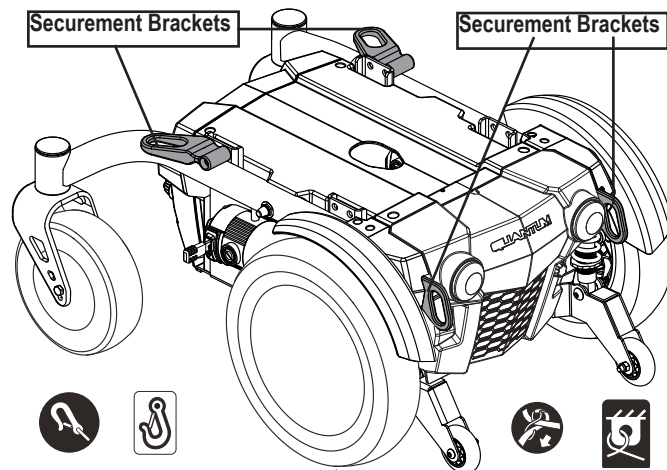

Figure 8. Transit System Securement Brackets
If your power chair is equipped with a transit securement system, it is equipped with manufacturer installed front and rear securement brackets and may be equipped with positioning belt anchoring brackets. See figure 8. Refer to the supplement provided with your power chair for information on how to use the transit securement system.
- Attach the four (4) tie-down straps to only designated, labeled transit securement points indicated by anchor symbols on the power chair. **See figures 8 and 9.** Tighten the straps sufficiently to remove all slack.